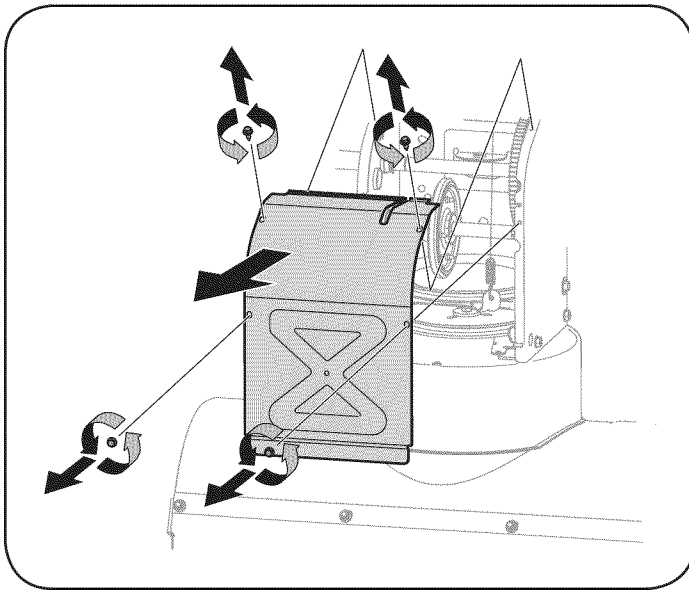

Figure 31
5. Remove the frame cover from the underside of the snow thrower by removing four self-tapping screws which secure it. See Figure 31.
- Remove the frame cover from the underside of the snow thrower by removing four self-tapping screws which secure it. Refer to Figure 31.